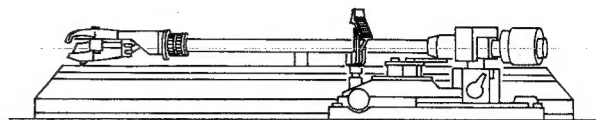

Fig. 8
4. Turn the main weight so that the tonearm maintains a balance with the stylus tip is almost touching to the record. (Fig. 8, 9)